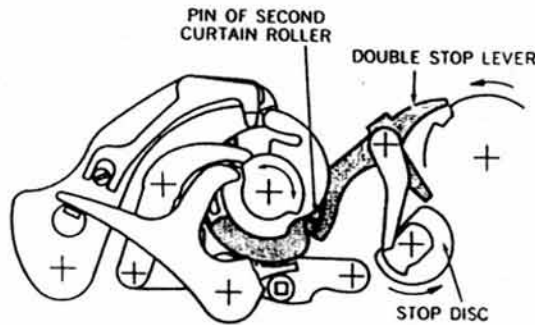

Figure 4-5. Double Stop Lever, Released Position (Top rear view).
b. Position the driveshaft assembly over its mounting holes on the inner housing, while pushing back slightly on the upper end of the double stop lever (fig. 4-5).